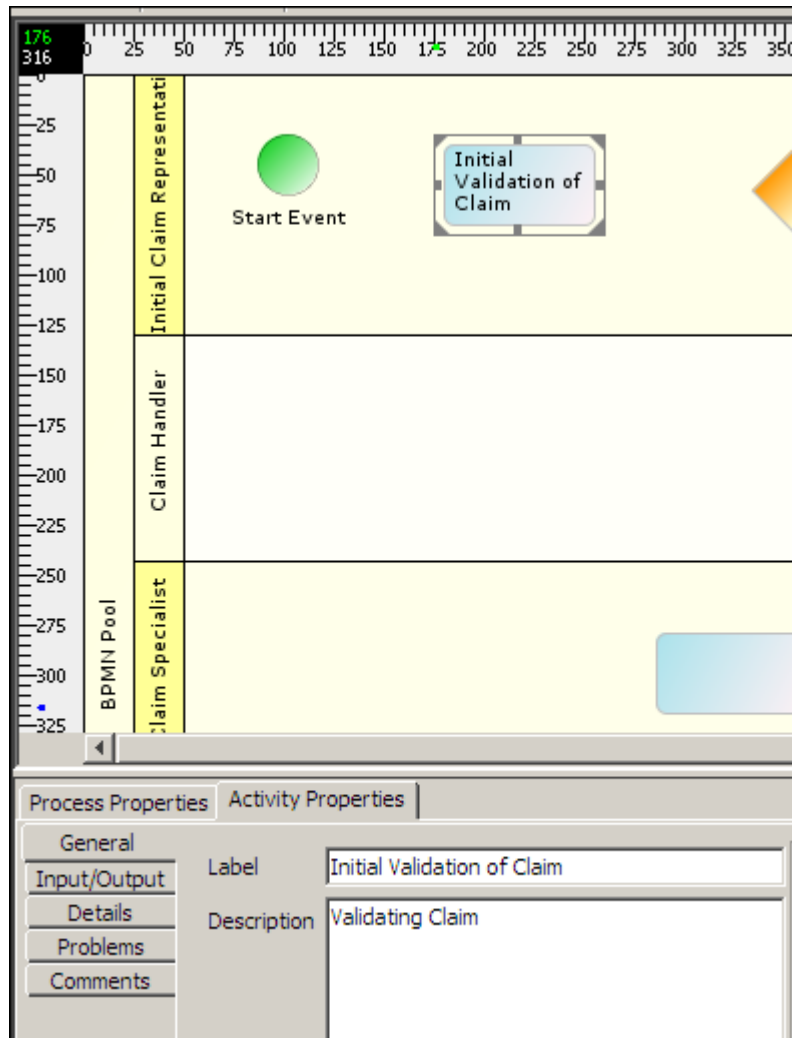

Figure 13: Displaying Name of Activity
- Click the element again in the Graph Canvas to display the name in the element (see Figure 13).